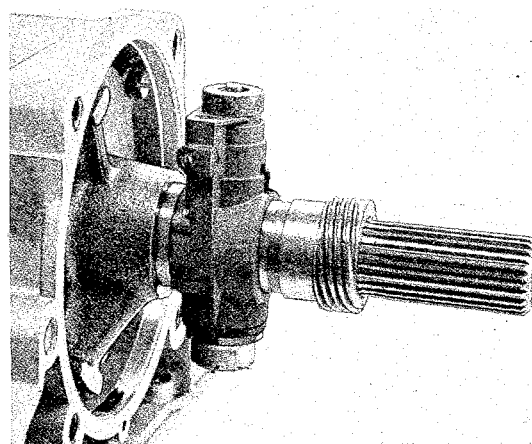

Fig. 4-112. Installing speedometer gear
22. Place the speedometer gear correctly on the driven shaft as shown in Fig. 4-112. Fit the extension housing with a new gasket and fit the drive flange with washer and nut.